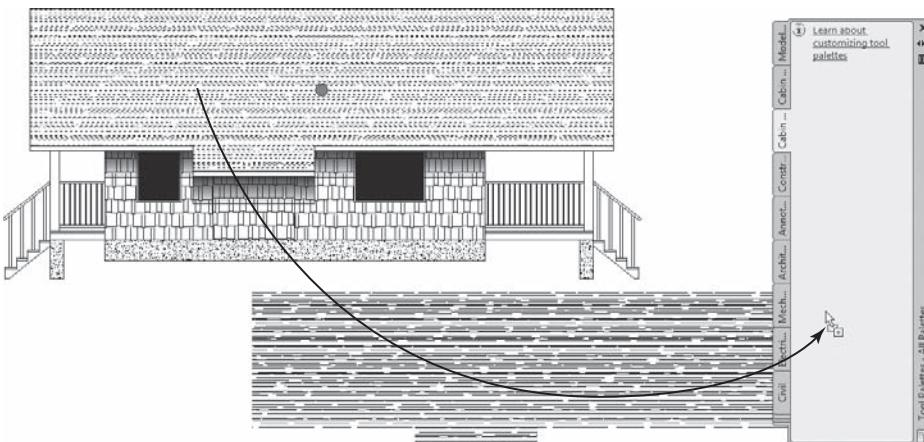

FIGURE 11.30 Copying the roof hatch to the new palette
3. Move the cursor to a portion of the roof hatch that isn't close to the grip, and then click and drag the hatch pattern over to the new palette (see Figure 11.30).